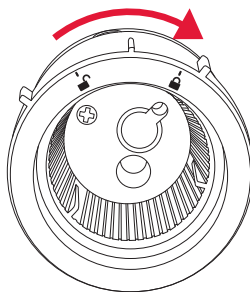

Figure 5
7. Rotate the capsule holder clockwise (towards the lock position) until you hear and feel it click into the locked position. See figure 5.